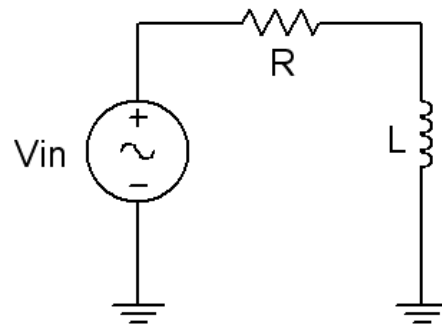

Figure 5.1
1. Using figure 5.1 with  $V_{in}=10$  V p-p and  $R=10$  k $\Omega$ , and assuming that the reactance of the inductor is much smaller than 10k and can be ignored, determine the circulating current using measured component values and record in Table 5.1. Also, measure the DC coil resistances of the inductors using an ohmmeter or DMM and record in Table 5.1.
2. Build the circuit of figure 5.1 using  $R=10$  k $\Omega$ , and  $L=10$  mH. Place one probe across the generator and another across the inductor. Set the generator to a 1000 Hz sine wave and 10 V p-p. Make sure that the *Bandwidth Limit* of the oscilloscope is engaged for both channels. This will reduce the signal noise and make for more accurate readings.